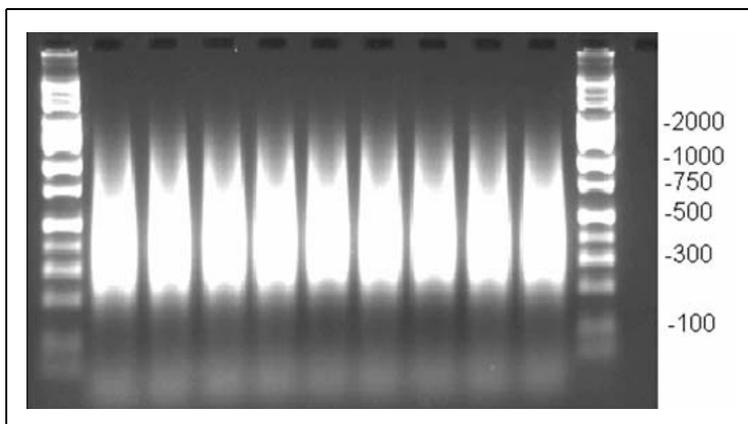

Figure 5.5 Example of PCR products run on 2% TBE agarose gel at 120V for 1 hour. Average product distribution is between ~200 to 1100 bp.
11. Verify that the PCR product distribution is between ~200 bp to 1100 bp (see Figure 5.5).